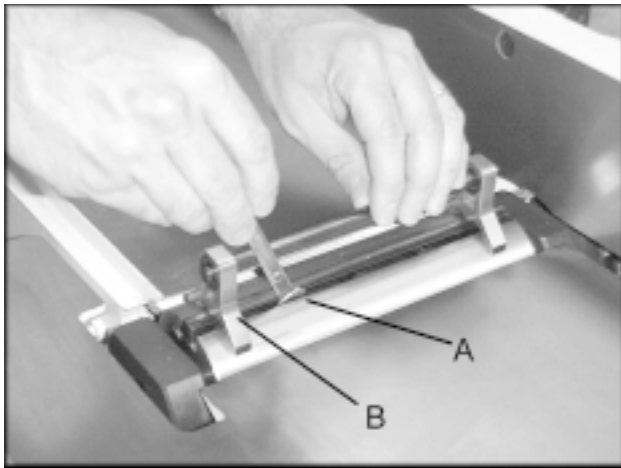

Fig. 10
7. If blade is higher or lower at one point, slightly loosen five screws (A, Fig. 10) by turning clockwise as viewed from the infeed table.
8. Place the knife setting gauge (B, Fig. 10) on the cutterhead over the blade. Continue loosening the five screws until the springs push the knife up into contact with the gauge. Alternately tighten the five screws to hold each blade in place.